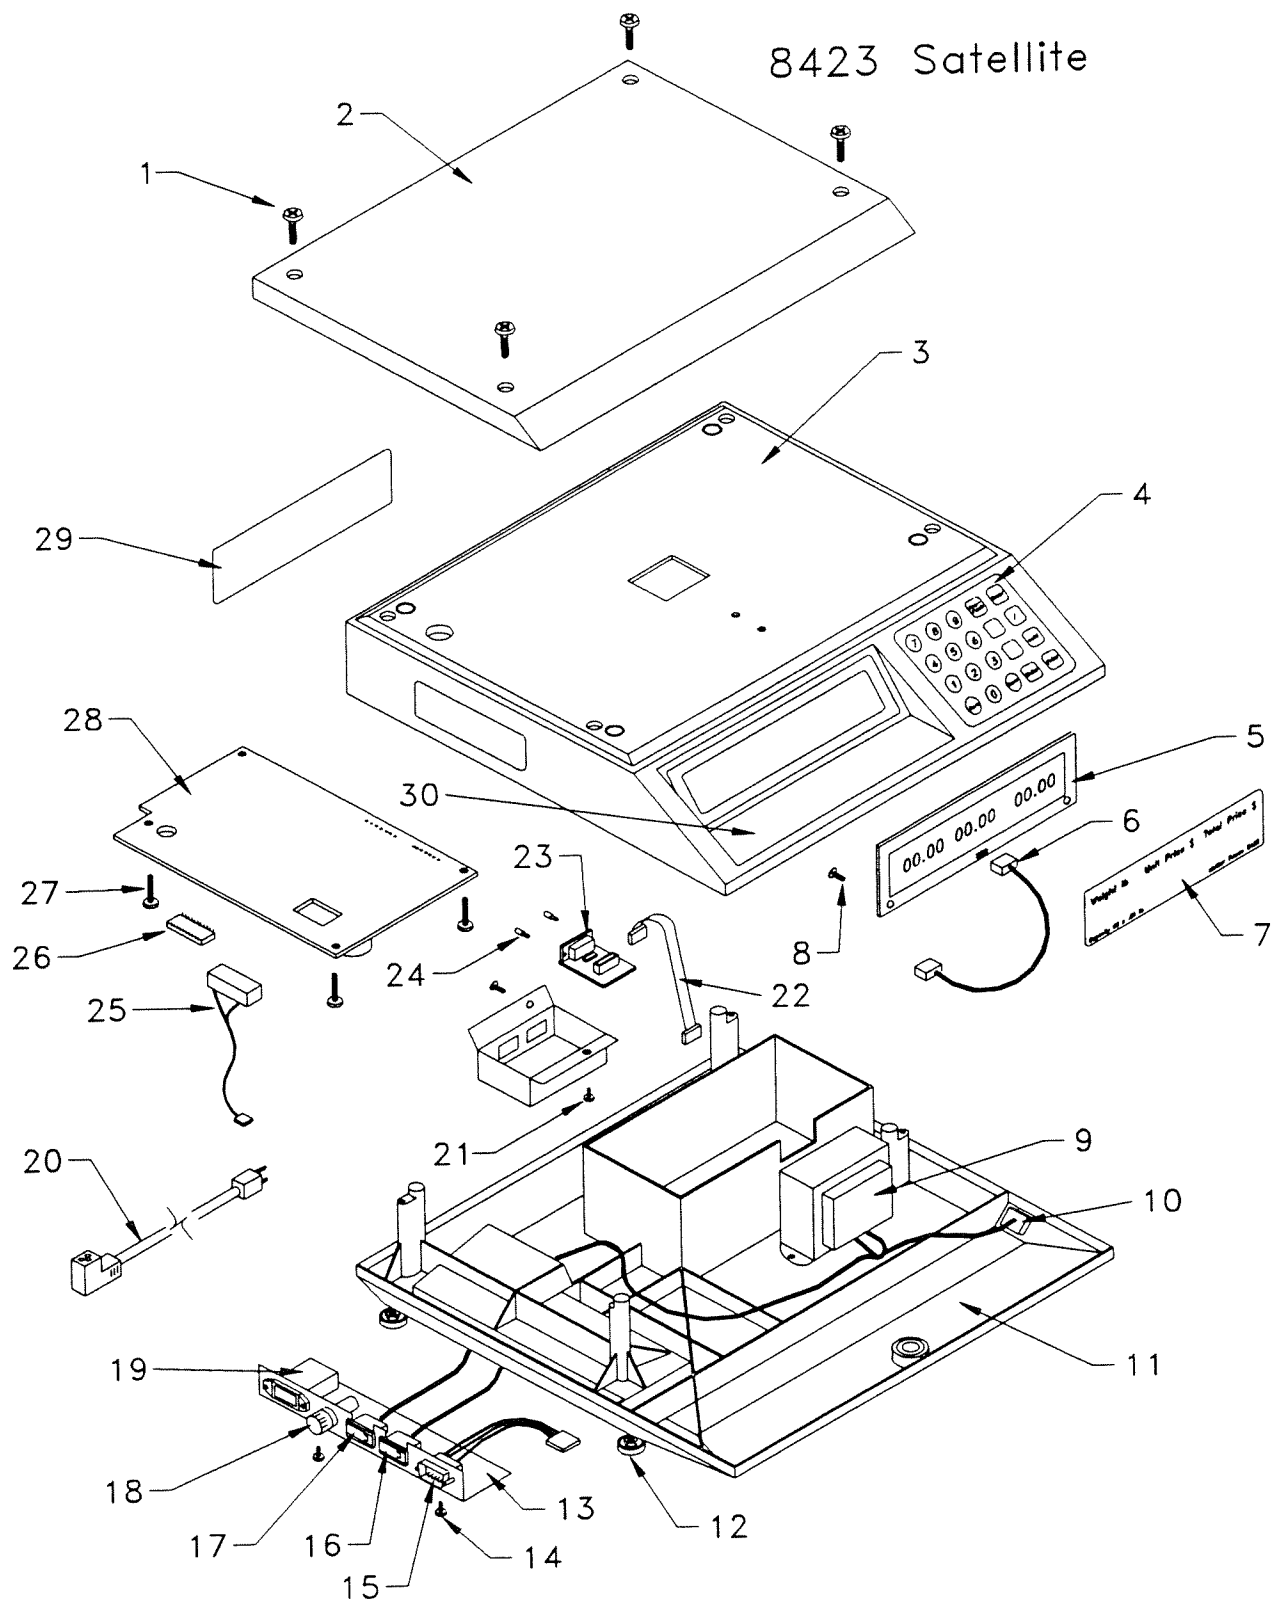

Figure 9.3 8423 Satellite
9.3 8423 SATELLITE REPLACEMENT PARTS FIGURE 9.3